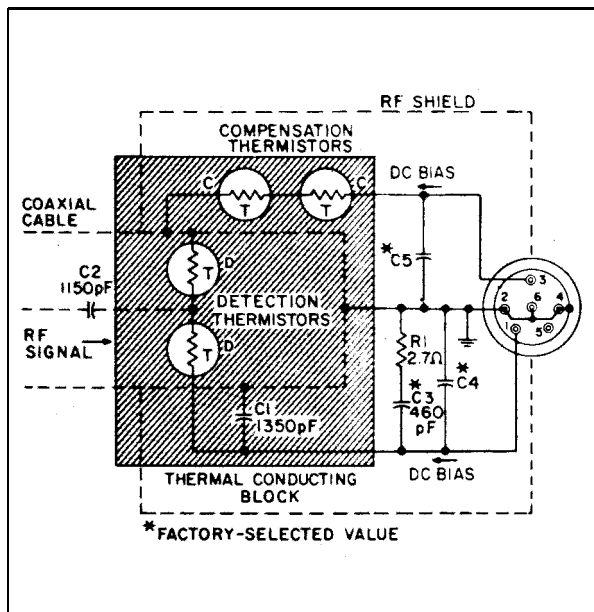

Figure 6. Schematic Diagram of a Model 478A Thermistor Mount when Connected to a 432 Power Meter
51. During 432 operation (see Figure 6) sufficient amounts of dc current are supplied from 432 Power Meter to heat the thermistors until their resistances are reduced to approximately 200Ω per series pair. Capacitor C1 is practically a short to RF. This causes "D" to appear series connected to the dc bridge, parallel connected to RF. In this manner, "D" appears to the dc bridge in the 432 Power Meter as a 200Ω resistance that terminates the coaxial cable into 50Ω . Capacitor C2 blocks any dc and audio power that may be present in the incoming signal and passes only RF power.
55. Under normal operation the total power applied to heat thermistor pair "D" (see Figure 6) consists of: 1) RF signal and 2) heat from the environment. The total power supplied to heat thermistor "C" consists of: 1) dc bias and 2) heat from the same environment. As "D" and "C" are matched thermally, the total amounts of heat applied to reduce their series resistance equally must be equal.
59. Match between the thermistors may be checked by comparing the thermistor resistances under simulated operating conditions. Equipment required is indicated in Figure 6. Make connections to the connector at the rear of the thermistor mount; pins are shown in Figure 6. Note that the small battery in series with the HP Model 3440 Digital Voltmeter is connected in opposition